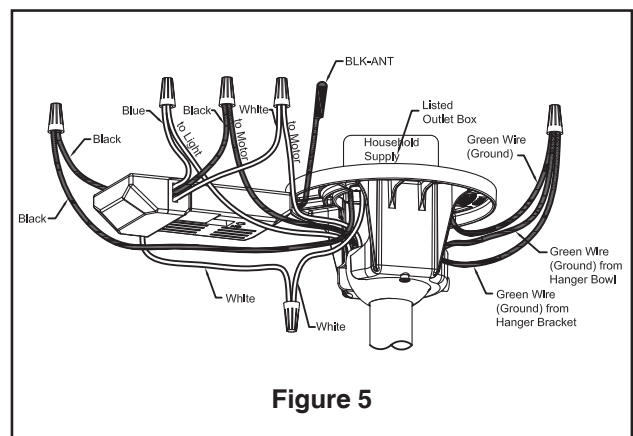

Figure 5
5. Route wires through motor coupling cover, canopy screw cover and canopy (Figure 5).
4. Connect green wires from hanger bracket and hanger ball to bare (ground) wire using wire connector supplied. Connect black wire from receiver unit marked "AC IN L" to black supply wire using wire connector supplied. Connect white wire from receiver unit marked "AC IN N" to white supply wire using wire connector supplied. Connect white wire from receiver unit marked "TO MOTOR N" to white wire from fan using wire connector supplied with receiver. Connect black wire from receiver unit marked "TO MOTOR L" to black wire from fan using wire connector supplied. Lastly, connect blue wire from receiver to the blue fan light wire using wire connector supplied. Position all connected wires and receiver antenna to allow installation of ceiling canopy (Figure 5).
- 5. Remove one of the three screws in the housing light kit assembly. Slightly loosen the remaining two screws. Assemble the socket plate to the light plate assembly using the two key slots. Replace the third screw and securely tighten all three screws (Figure 5).
- 5. If airflow is desired in the opposite direction, turn the fan off and wait for the blades to stop turning. Then slide the reverse switch on top of motor assembly to the opposite position and turn fan on again (Figure 5).